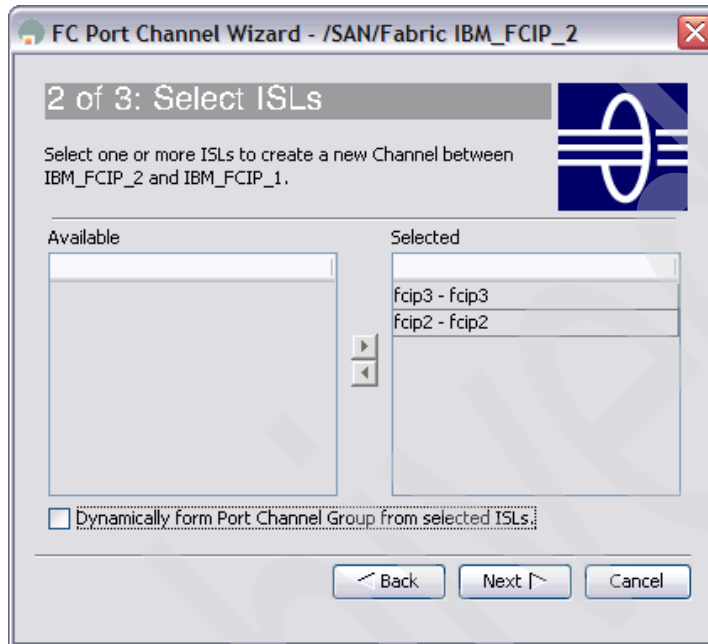

Figure 12-25 FM Port Channel Wizard panel 2 of 3
- b. Highlight which links will make up the PortChannel, and using the arrow keys, move them from the Available to the Selected column (Figure 12-25). Click **Next** to proceed.